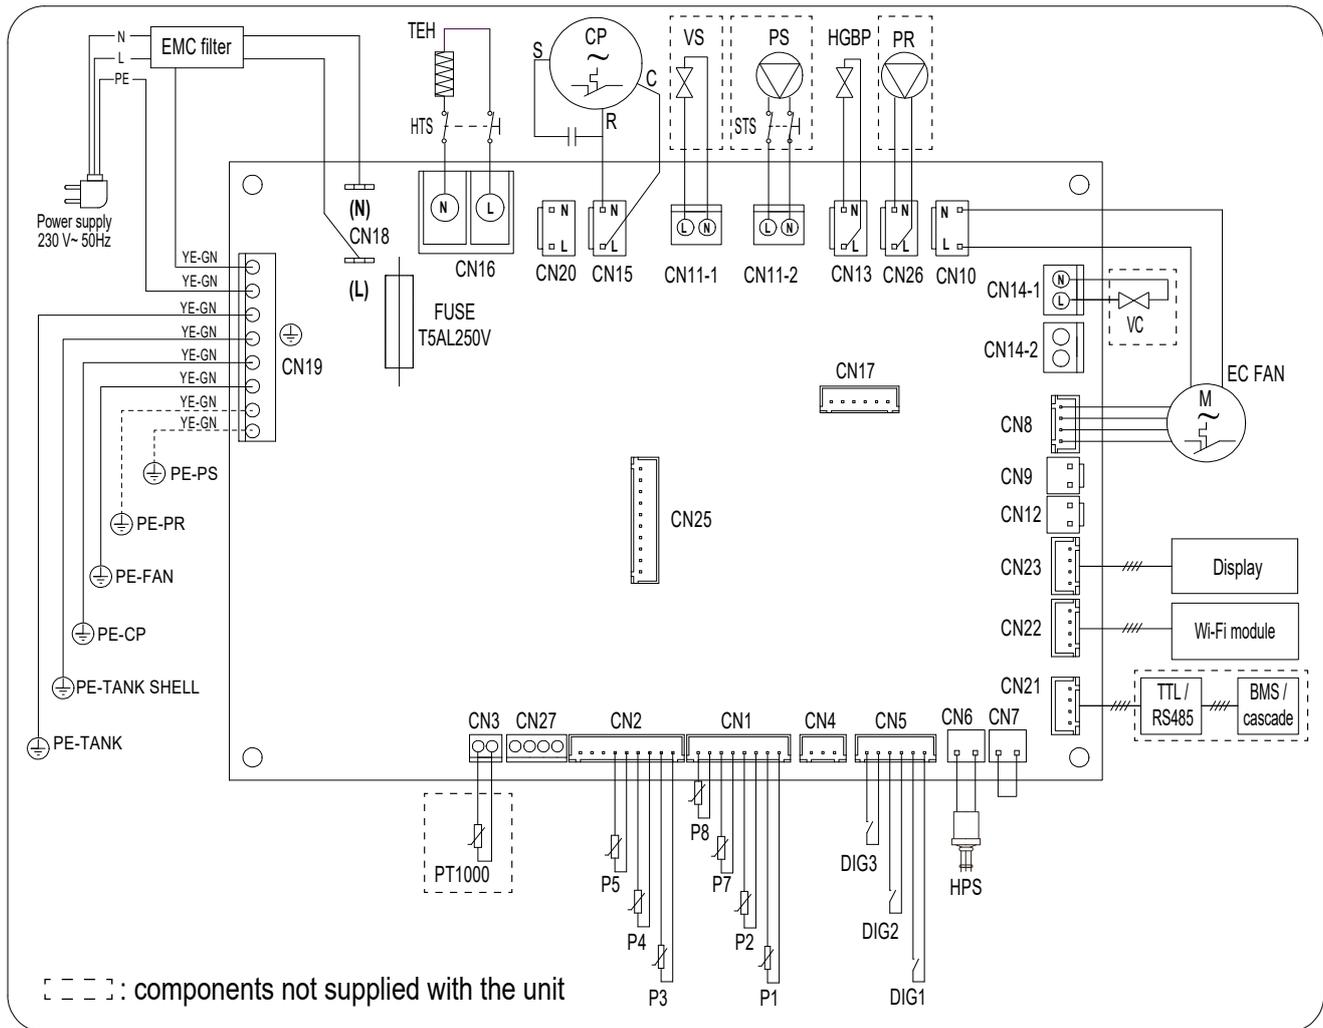

fig. 73 - Wiring diagram of the equipment
- 1) The recirculation pump (part.16) must be connected to terminal CN26 of the master motherboard (ref. "fig. 73 - Wiring diagram of the equipment" on page 123).
- 2) Fit a normally open solenoid valve (part. 19) for each unit in the cascade. The valve must be connected to terminal CN14-1 (ref. "fig. 73 - Wiring diagram of the equipment" on page 123) of the mother board of each unit.